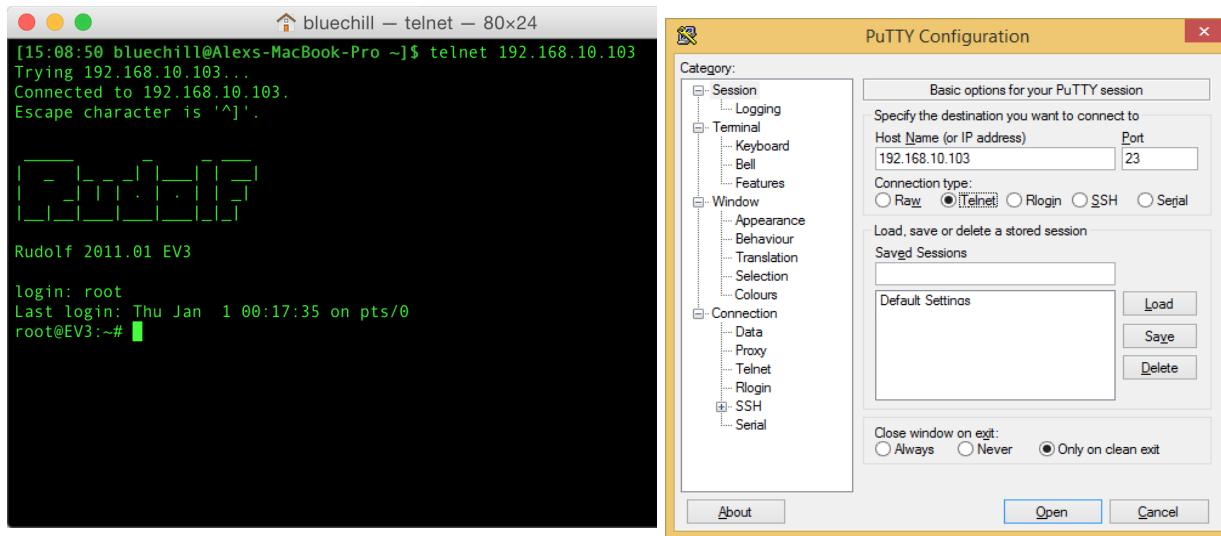

Figure 6: Connecting to the EV3 robot. For Linux and Mac Users on the left, for Windows users on the right (using PuTTY)
3. Connecting to the robot using telnet for different operating systems. (Figure 6)